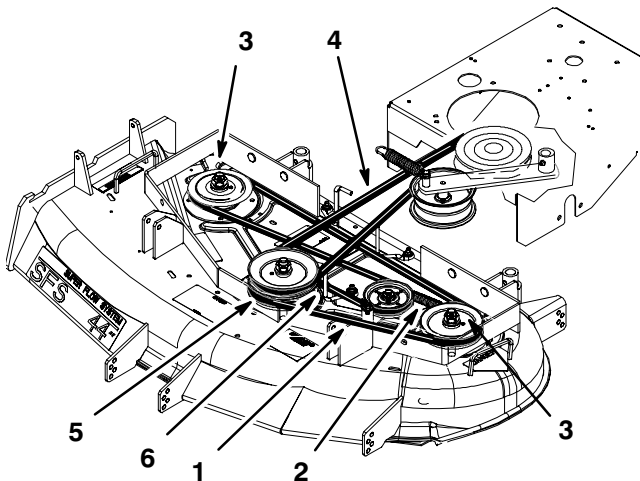

Figure 62
5. Disconnect the idler arm spring to relieve tension on the idler arm and idler pulley, then remove the worn deck belt (Fig. 62).
6. Install the new deck belt around the two outside spindle pulleys, the idler pulley, and in the lower groove of the center spindle pulley (Fig. 62).
7. Connect the idler arm spring (Fig. 62).
9. Adjust deck belt guide an 1/8 in. from belt (Fig. 62).